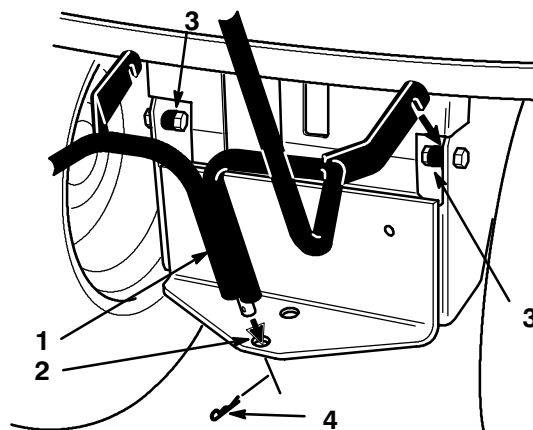

Figure 25
- Remove the hair pin cotter from the hole at the bottom of the quick-attach bracket (Fig. 25).
- Slide the bottom of the quick-attach bracket up out of the hole in the hitch and unhook from the spacers located inside the tractor frame (Fig. 25).